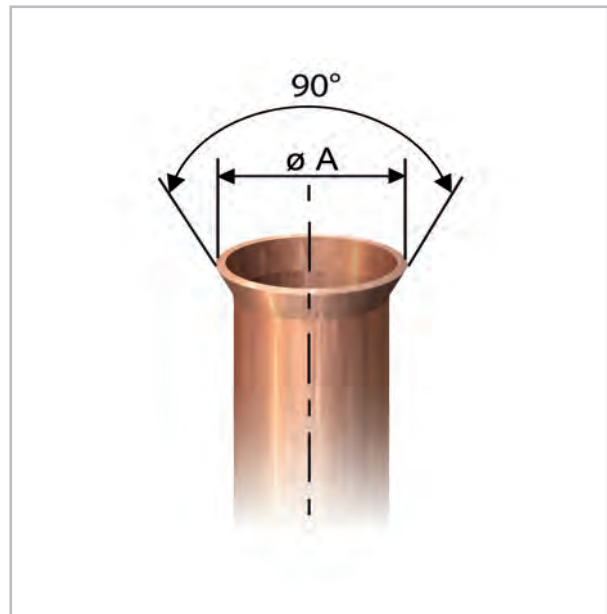

Fig. 36: Correct flange shape
9. ➤ Verify that the shape of the flange is correct (Fig. 36).